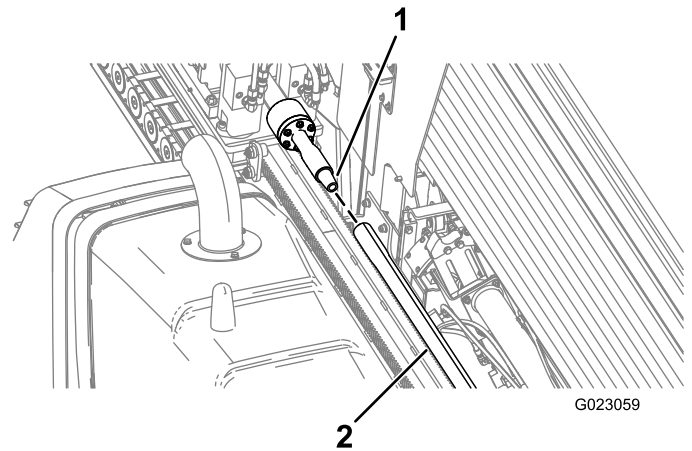

Figure 80
9. Rotate the drill spindle clockwise, and move the carriage slowly forward to insert the spindle into the female end of the pipe (Figure 80).
9. Rotate the drill spindle clockwise and move the carriage slowly forward to insert the spindle into the female end of the pipe (Figure 80).